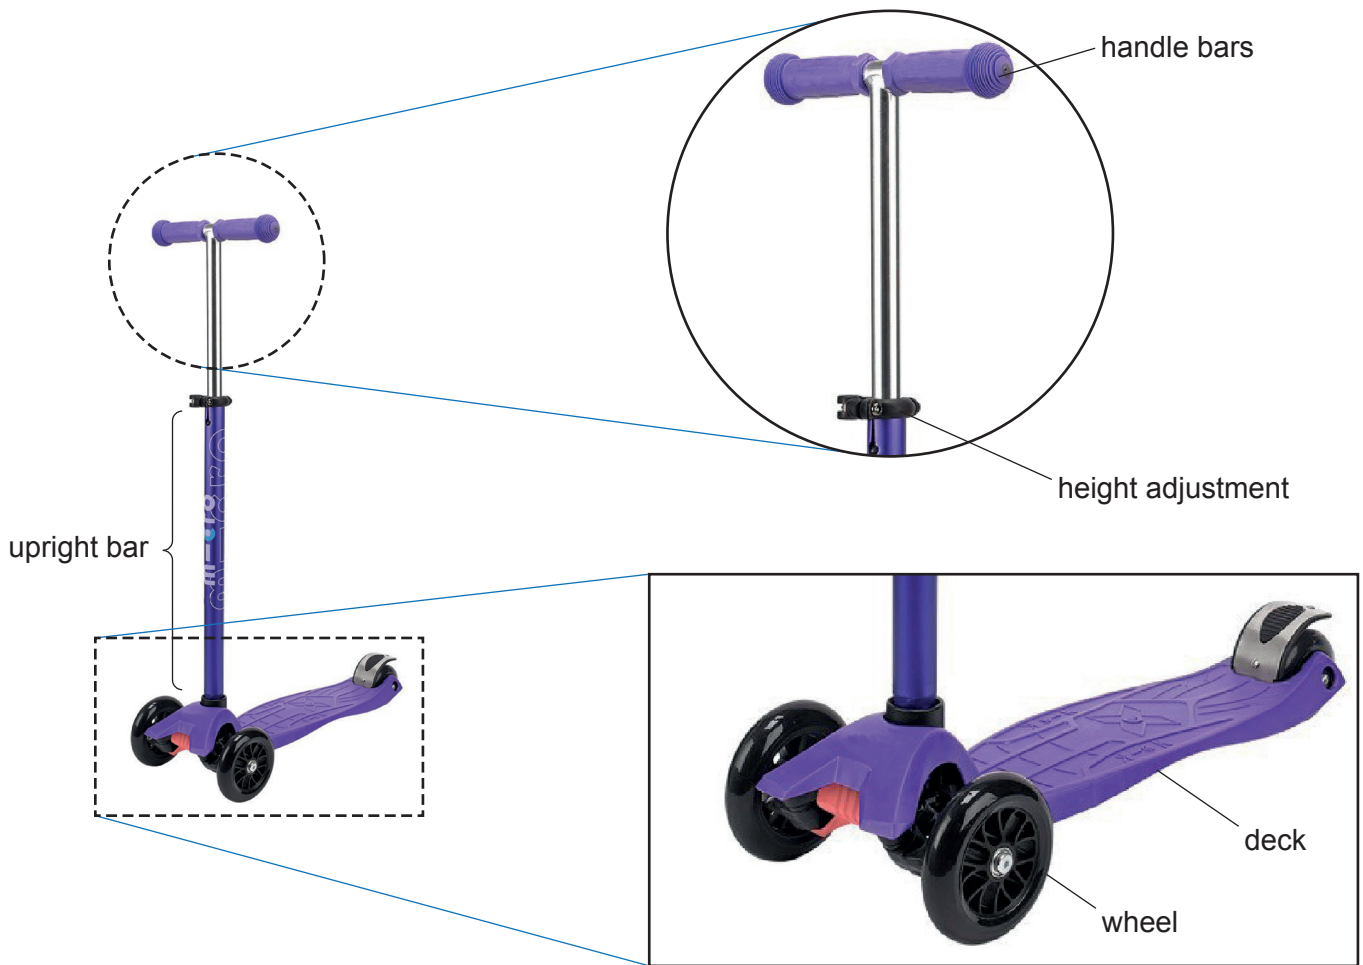

Fig. 4.1
4 Fig. 4.1 shows a child's scooter.
(a) The height of the handle bars shown in Fig. 4.1 can be adjusted. State **two** benefits to the user of being able to adjust the height. Justify your response.
- (d) The upright bar of the scooter, labelled in **Fig. 4.1**, can be personalised with a padded sleeve. The padded sleeve is a hollow cylinder which slides over the upright bar and covers the whole area, as shown in **Fig. 4.3**.